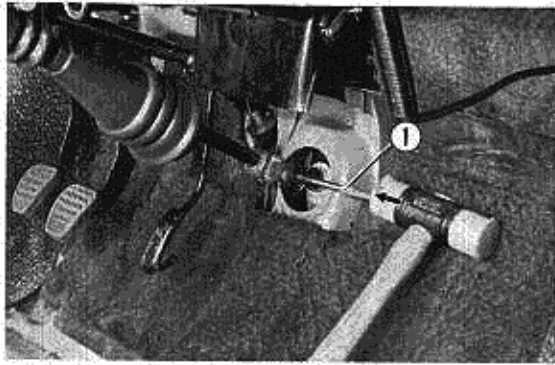

Fig. 3-2 ① Gear Shift Rod Pin Driver
9. Using the special tool (gear shift rod joint pin driver) and a hammer, remove the pin at the joint as shown in Fig. 3-2.